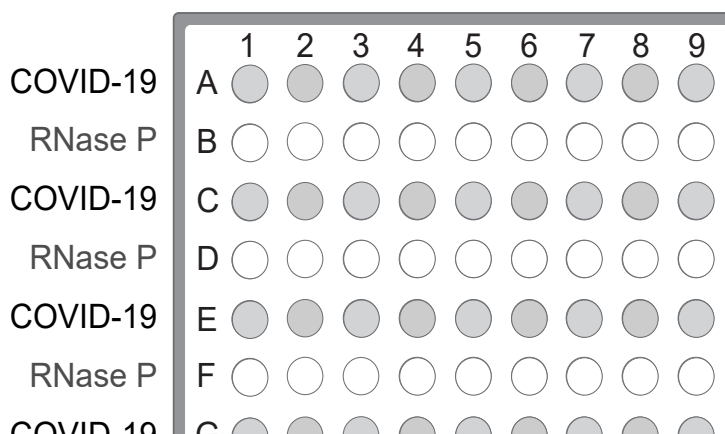

Figure 1 Assays in alternating plate rows
- a. Starting with row A, pipet 15.0 μ L per well of the COVID-19 Reaction Mix into every other row of a MicroAmp™ Fast Optical 96-Well Reaction Plate with Barcode, 0.1 mL or a MicroAmp™ Optical 96-Well Reaction Plate with Barcode, 0.2 mL. See Figure 1 on page 53.